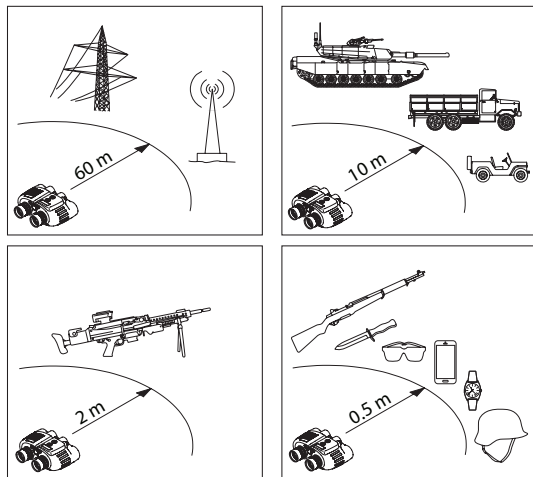

Fig. 24
You must maintain minimum distances from these sources of disturbance when measuring and calibrating, see Fig. 24.
- At an appropriate distance from structures and metal objects, see Fig. 24 on page 82